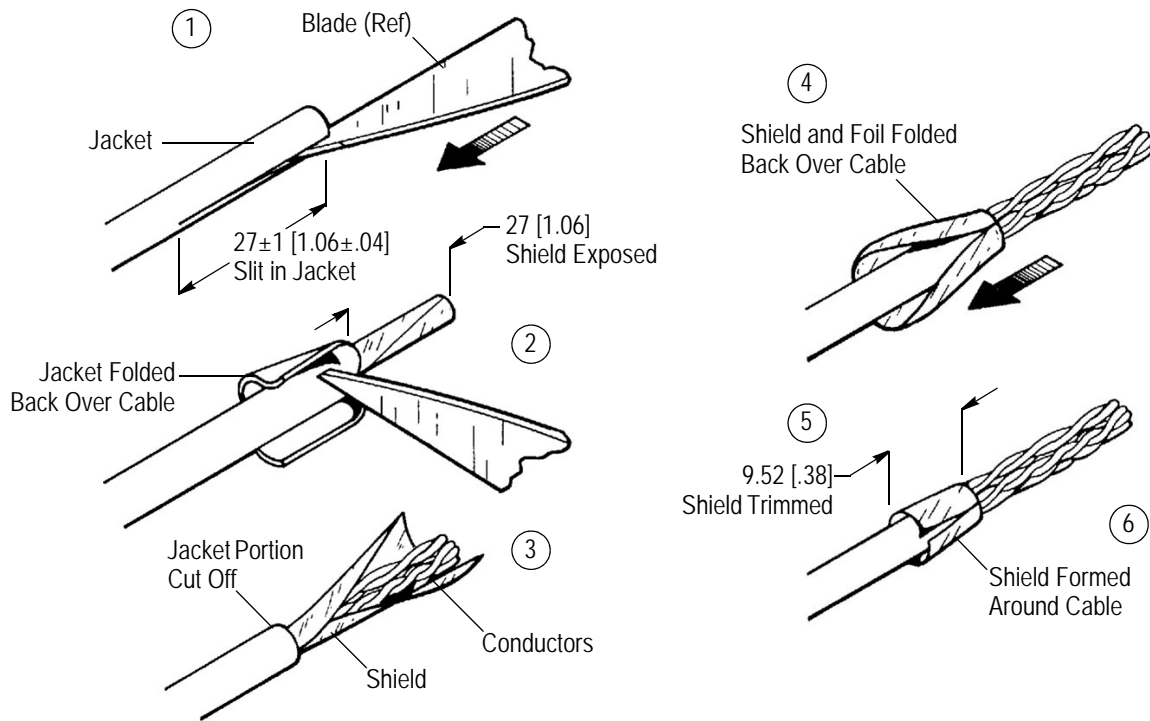

Figure 3
Proper cable strip length is necessary to properly insert unshielded cable into the plug connector. The strip length is given in Figure 3.
1. A blade tip must be inserted between the shield and jacket. The jacket must be slit back from the end to the dimension given in Figure 3.
2. The jacket must be pulled away from the shield, and folded back over the cable. The slit portion of the jacket must be cut off. Care shall be taken not to cut the shield. The conductors enclosed by the shield should extend to the dimension given in Figure 3.
5. The shield must be trimmed to the approximate length given in Figure 3.